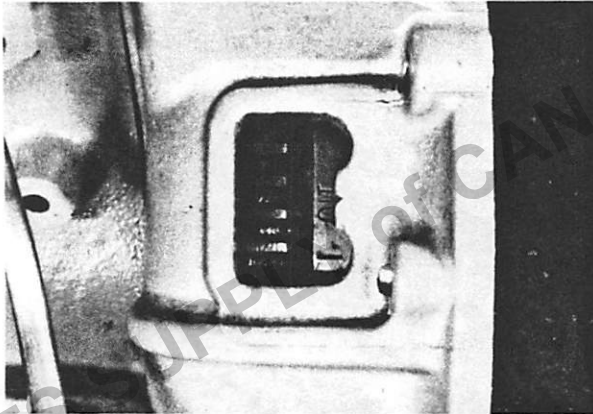

Fig. 3-2-49 Timing mark on flywheel 03-0618
2. Retighten the six bolts Nos. 4, 5, 12, 13, 20 and 21 (Fig. 3-2-49) with special socket wrench No. 09839-1701.